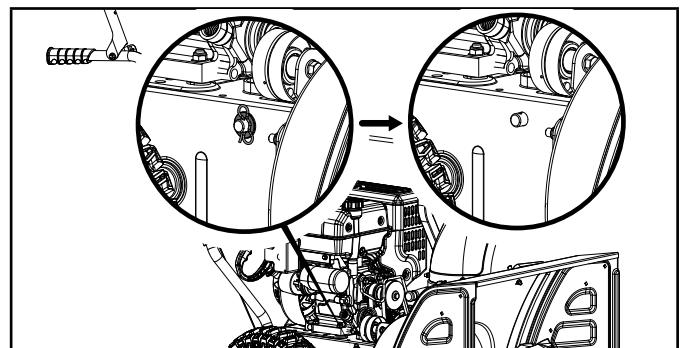
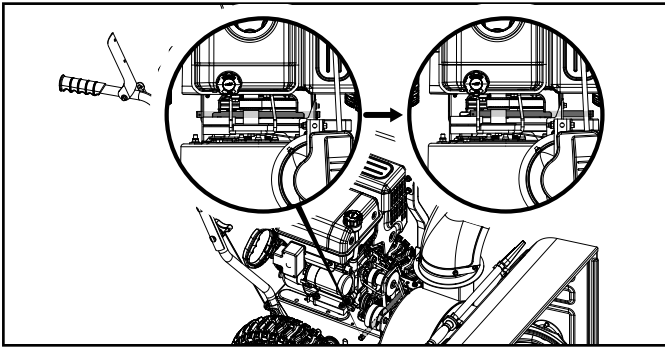

Figure 28A
Figure 28B
2. Remove clip and washer (Fig. 28A), pull support rod $\frac{1}{2}$ way out from other side of snowblower (Fig. 28B).